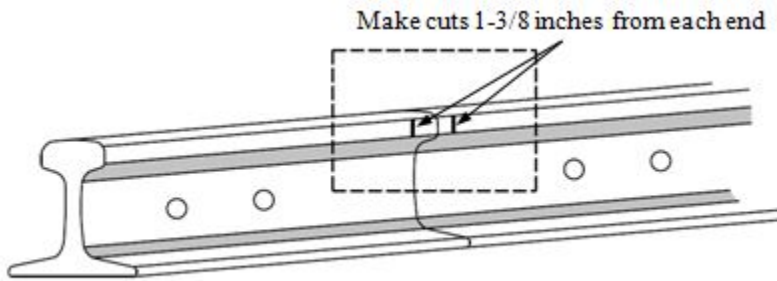

Figure 110H *Marking Additional Cuts*
- If rail was previously cut and no marks are visible, remove 1-3/8 inch from each rail end.(See Figure 110H)